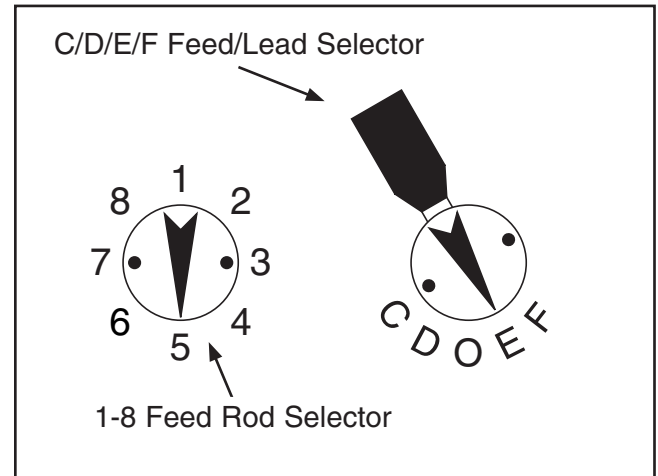

Figure 54. Feed rod/lead screw selector.
4. Feeds rates are controlled by the combination of three different switches. The A/B feed/lead selector in **Figure 54**, the 1-8 feed rod selector, and the C/D/E/F feed/lead selector combinations in **Figure 54**.